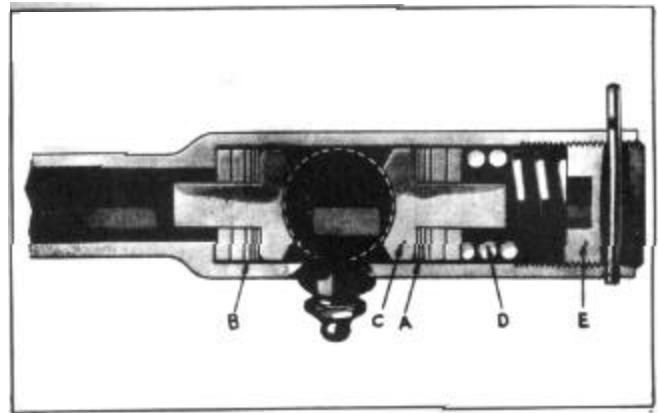

Figure 6--Drag Link Rear End
2. Remove cotter pin and rear plug (E).
3. Remove spring (D), Figure 6, shim pack (A), ball seat (C) and remove Pitman arm ball from drag link.
4. If steering wheel spoke (see Setting Front Wheels in Straight Ahead Position) is more than 2" (measured on the rim of steering wheel) to the left of horizontal remove the front ball seat and add part of the shims from the front pack (B) to the rear pack (01) and replace the front ball seat (C).
- If steering wheel spoke is more than 2" (measured on the rim of the steering wheel) to the right of horizontal shims should be removed from the rear pack (A) and added at the front pack (B).
5. Attach drag link to pitman arm ball; install ball seat (C); all of the remaining shims (A); spring (D); and rear plug (E).